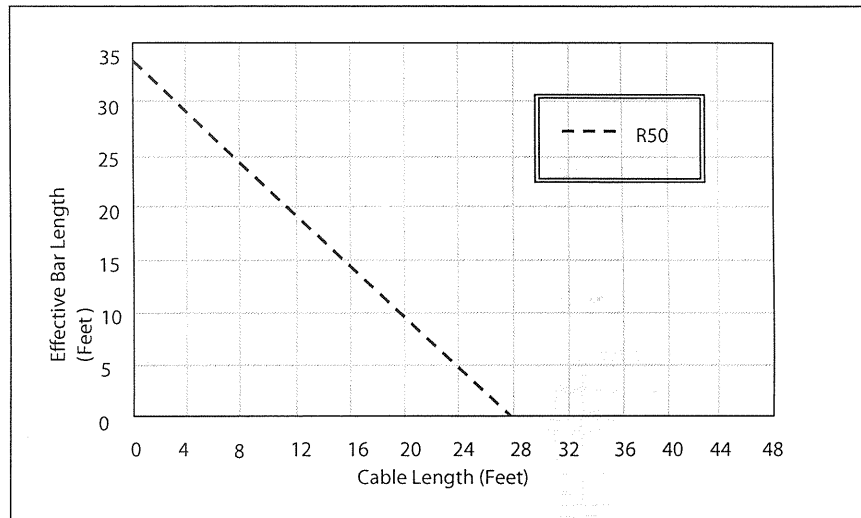

Figure 3
Profile Dimensions (see Figure 3):	5/8"W x 13/16"H x Overall Length (OL)